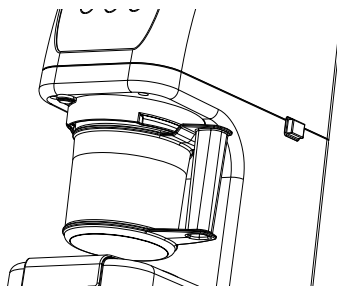
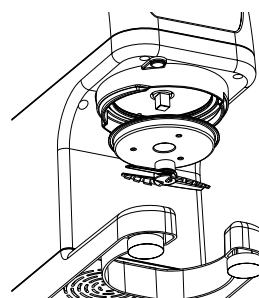

Fig 2
Fig 5
- Place the jar in the machine with the handle to the user's right-hand-side (Fig. 2)
- Fit the blade (E) onto the spindle of the lid (D), and ensure that it is correctly secured (Fig. 5)
- Place the vessel (F) into the jar (G)